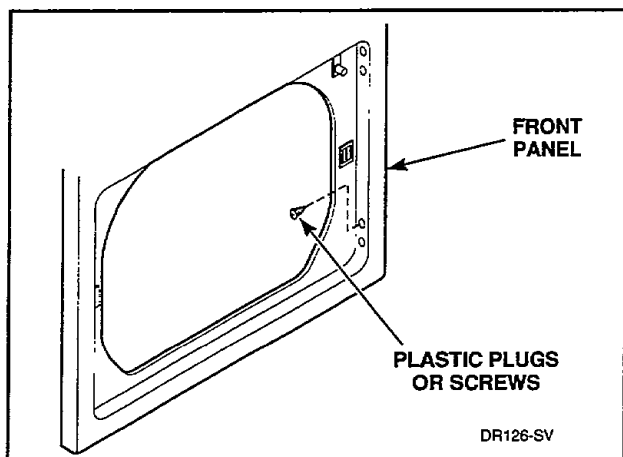

Figure 14
- h. Remove plastic plugs (or screws) from left side of the door opening of the dryer front panel and place them into holes on right side, *Figure 14*.